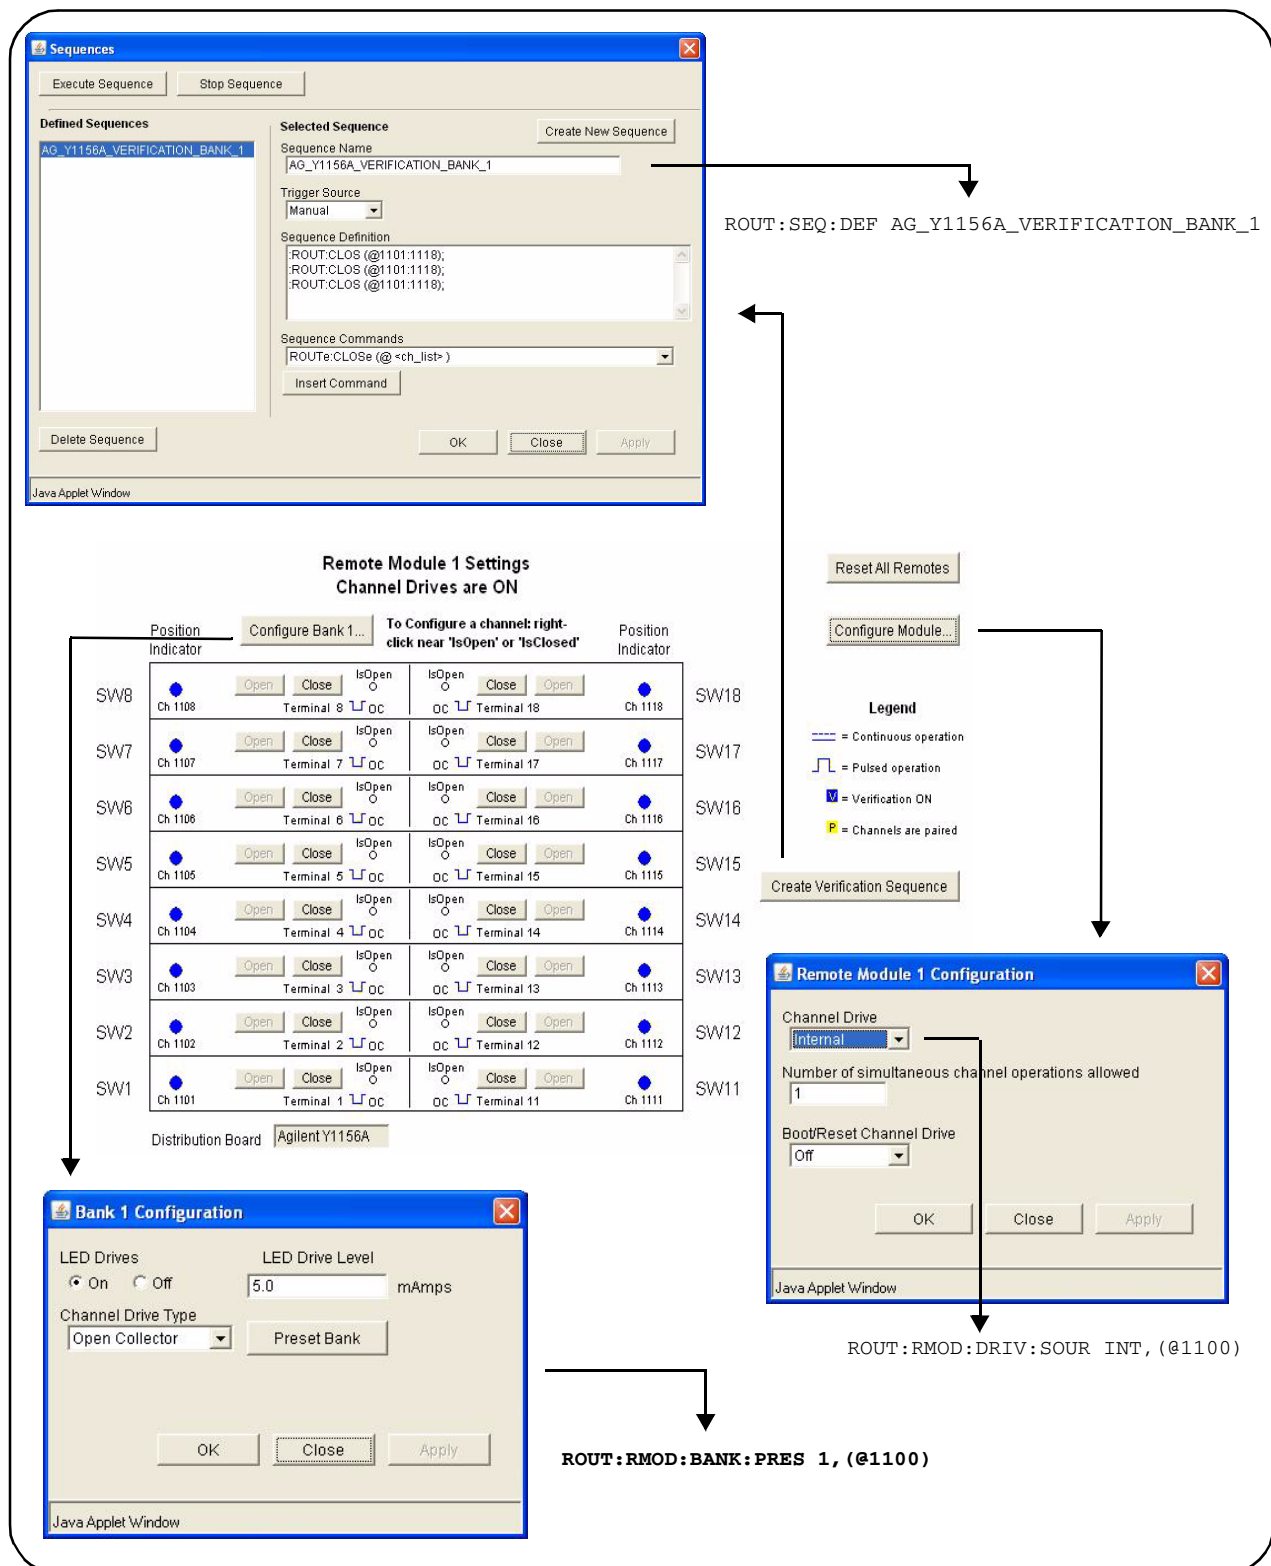

Figure 4-8. Running the Y1156A Verification Sequence.
- 4 In the 'Browser Web Control' window, locate the bank and Y1156A programming diagram. An example of the diagram is shown in Figure 4-8.